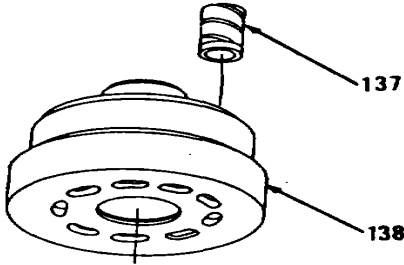

Figure 10-44.
- 32. Using feeler gage, measure clearance between plate (128) and nine pistons (127). Add or remove shim(s) (125 and 124) until a clearance of 0.003 inch is obtained.
- 33. Install nine bearings (137) in barrel (138, Figure 10-44).